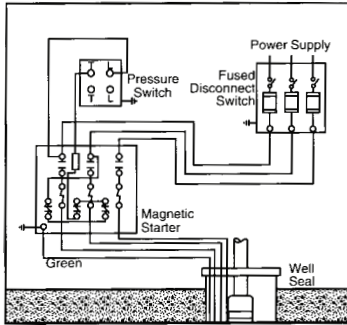

Fig. 10 Three-phase wiring diagram for Grundfos and Franklin motors
**Each of the three motor legs must be protected with overloads.** The thermal overloads must trip in less than 10 seconds at locked rotor (starting) current. A three-phase motor wiring diagram is shown in fig. 10.